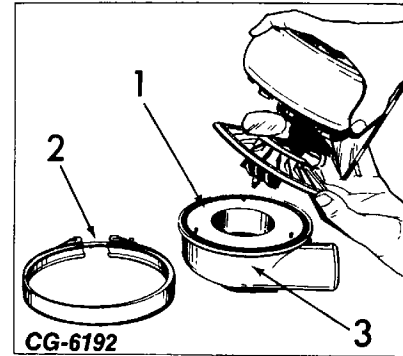

Figure 7. - Compressor Housing Installation
3. Install the diffuser (if so equipped) into the compressor housing. Carefully insert the core assembly with turbine housing into the compressor housing. Align the marks on the compressor housing with those on the center housing and backplate. Carefully install the compressor housing and secure with bolts and lockplates or clamps, whichever is used on the particular model Turbocharger. Tighten the bolts or clamps in proper sequence and to specified torque. (Fig. 7)